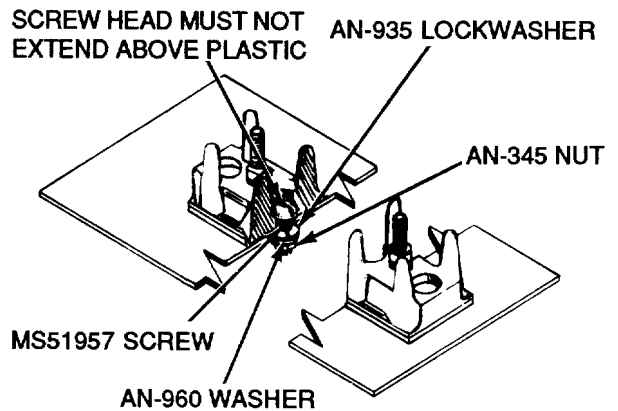

Figure 10. Terminal Board Mounting
- a. Install mounting screws so that the screws extend through the bottom of the terminal board (Figure 10).